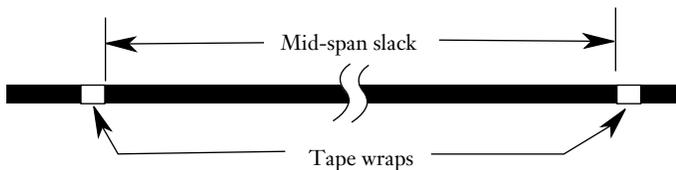

Figure 24
7.3 Determine the amount of slack needed. Place a wrap of tape at each end of the cable sheath that is to be removed (Figure 24).